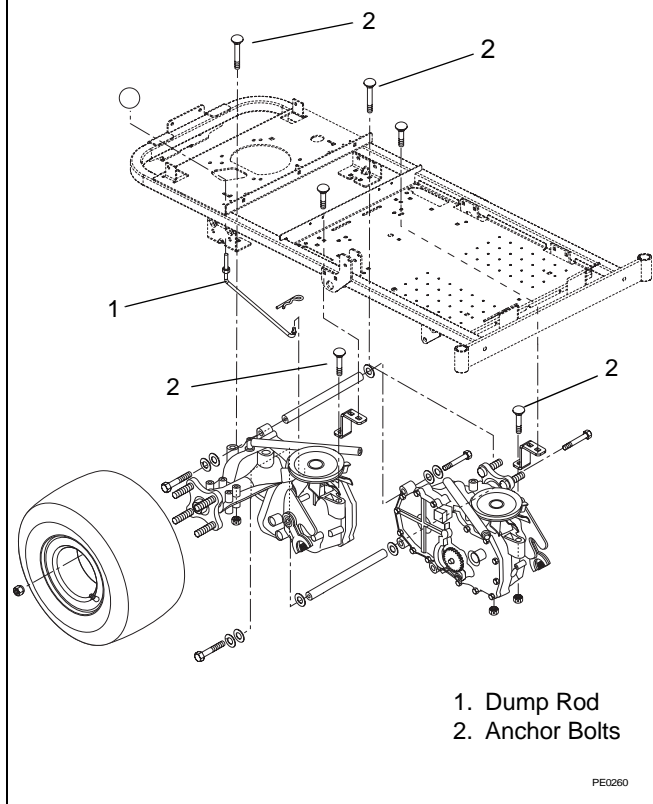
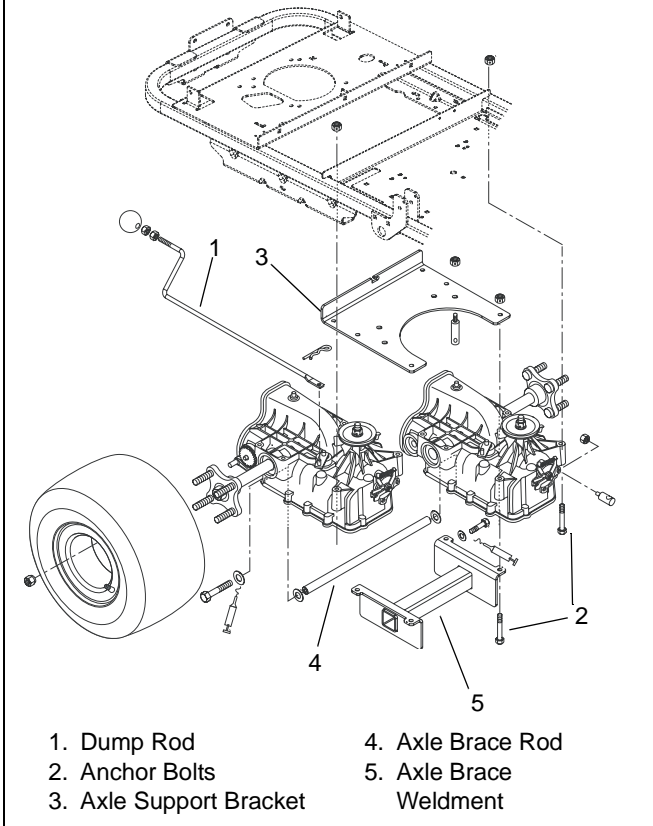

Figure 20
Figure 21
7. At the end of each brace rod (Figure 21) remove the hairpin and pull the rods away from the transmission.
8. At the end of each steering link, (Figure 20 and Figure 21) remove the hairpin and pull the links away from the transmission.